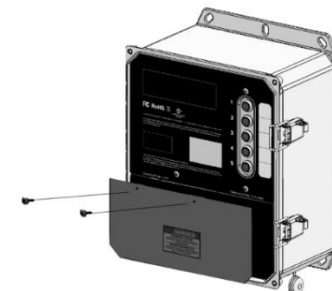

Figure 1
4. Using six (6) 0.25" diameter screws that can fit the 0.310" diameter mounting holes and capable of supporting 50 lbs. of weight, screw the CBS to the wall.
5. Remove the two screws and lower cover to access the bottom wiring compartment. (Figure 1). A flathead screwdriver may be used to help lift and remove the cover.
8. If you are not using an outdoor antenna kit, place the lower cover back into position and tighten the two screws. (Figure 1)
5. Place the lower cover back into position and tighten the two screws. (Figure 1)